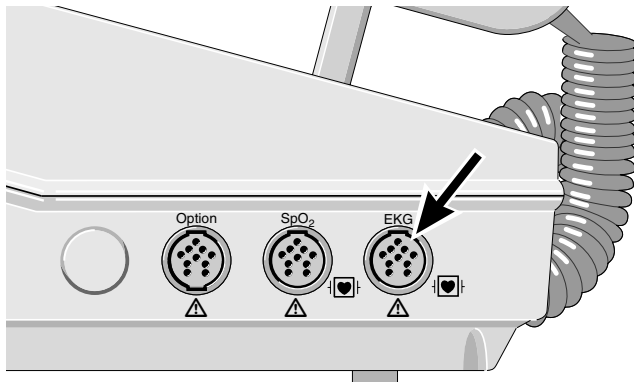

Figure 5-3. ECG signal input
- * Check that **no patient cable** is connected to ECG signal input (Figure 5-3).
- * Apply the electrodes (choosing the EINTHOVEN limb lead system, for instance) and connect them to **CardioServ** via the patient cable (Figure 5-3).